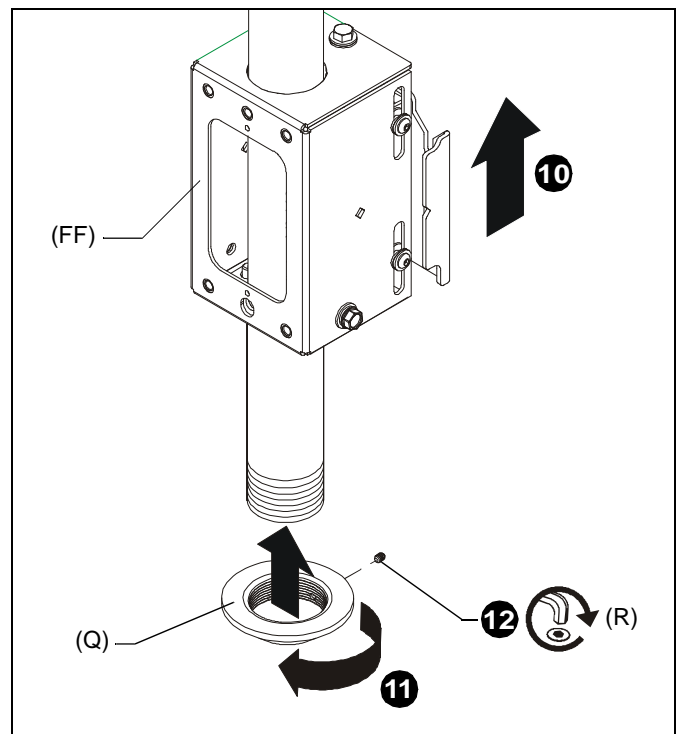

Figure 3
- Slide array head (FF) up from below onto installed column (not included). (See Figure 3)
- Thread bottom coupling (Q) onto installed column until tight, with a minimum of four threads engaged. (See Figure 3)
- Install and tighten one 10-24 x 1/4" set screw (R) into bottom coupling (Q). (See Figure 3)